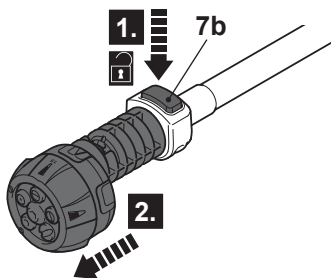

Fig. 5
1. Press the release button (7b) (Fig. 5, step 1) and remove the nozzle (step 2).